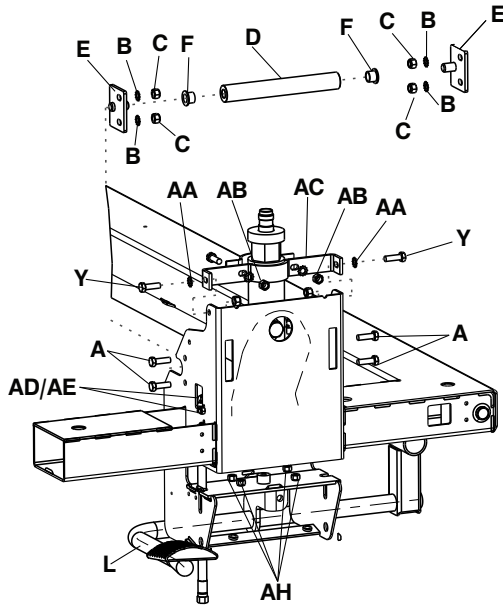

Figure 3 – Jack replacement
- Using a 1/2" wrench, remove the screw (A), external tooth lock washers (B), and Nylock nuts (C) that secure the pump link roller bar assembly (D), (E), and (F) to the base (Figure 3).